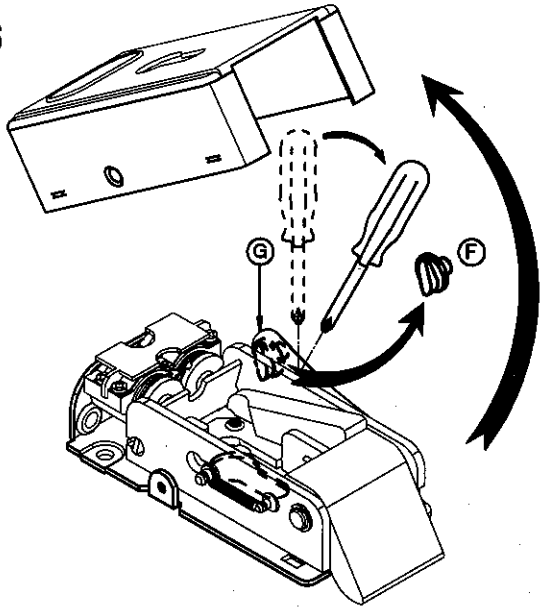

Fig.4
**(GB) TO ADJUST THE BACKSET OF THE LOCK (ONLY FOR LOCK V9083 WITH ROUND CYLINDER - SEE FIGURE 4)**
**(D) EINTRITT REGELUNG (NUR FÜR ELEKTROSCHLOSS V9083 MIT RUNDZYLINDER - SEHEN SIE FIGURE 4)**
**(F) POUR REGLER LA DISTANCE D'ENTREE (SEULEMENT POUR SERRURE V9083 AVEC CYLINDRE ROND - VOIR FIGURE 4)**
- (GB) HOW TO CHANGE OPENING FUNCTION (ONLY FOR LOCKS V06 AND V9083 - SEE FIGURE 4)**
- (D) ÖFFNUNG ÄNDERUNG (NUR FÜR ELEKTROSCHLÖSSER V06 ET V9083 - SEHEN SIE FIGURE 4)**
- (F) MODIFIER LA FONCTION D'OUVERTURE (SEULEMENT POUR LES SERRURES V06 ET V9083 - VOIR FIGURE 4)**